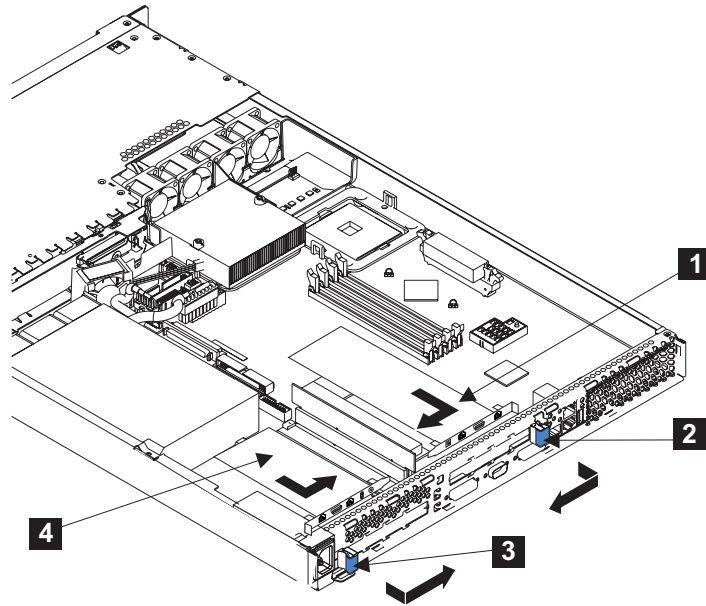

Figure 147. The SAN Volume Controller 2145-4F2 with its adapters installed
- Pivot the expansion-slot clip (**2** or **3** in Figure 147) toward the adapter and press it into place.